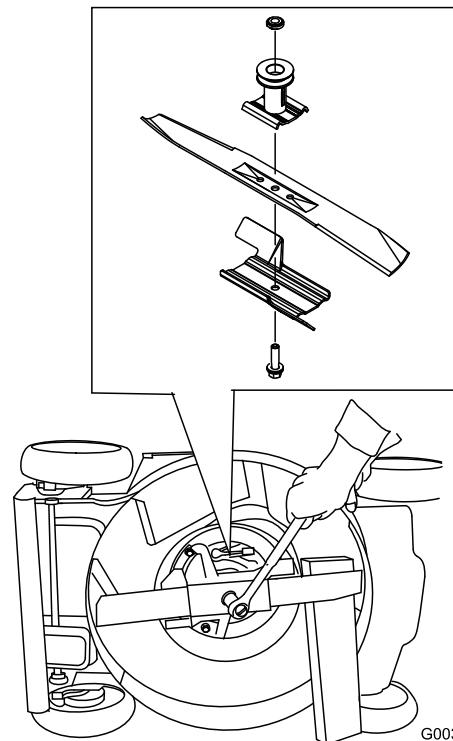

Figure 40
3. Use a block a wood to hold the blade steady (Figure 40).